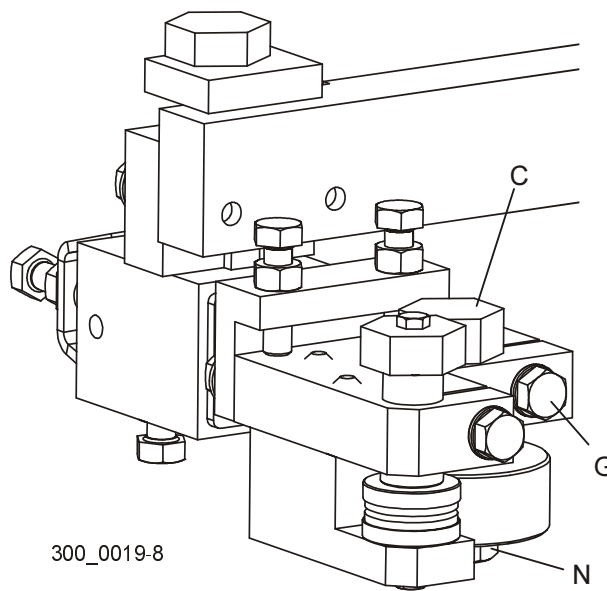

FIG. 7-13
3. Turn bolt (A) counterclockwise on each blade guide assembly up until the bottom guide disks touch the blade, but do not deflect it upward.
4. Turn bolt (F) clockwise to adjust the top guide disk on each blade guide assembly back down until it touches the blade, then back up 1/4 - 1/2 turn. Tighten clamp bolt (H).
See Figure 7-13. To adjust, loosen clamp bolt (G) and turn bolt (C) to move the roller toward or away from blade. Raise or lower the roller to avoid the blade contacting an existing groove in the roller. Retighten clamp bolt (G). **NOTE:** If the roller is completely grooved on one end, remove bolt (N) and flip the roller to use the other end. If both ends are completely grooved, replace the roller.